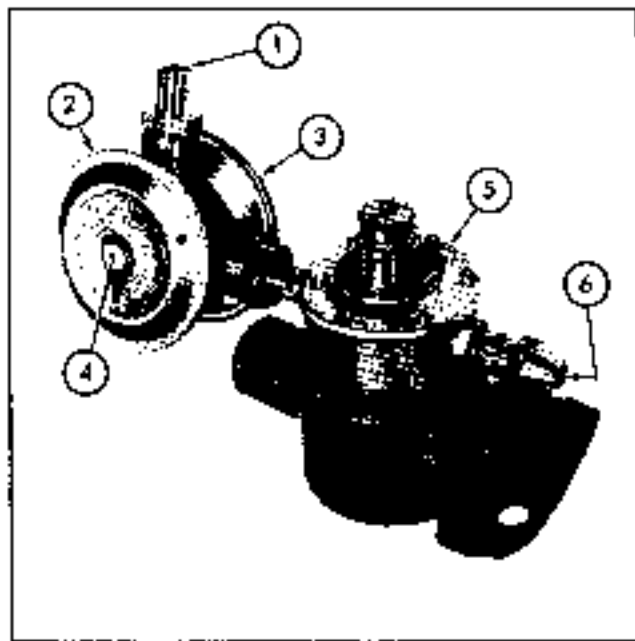

Fig. 147
- With vaporizer adjustments completed, and correct outlet pressure obtained, as described previously, connect INLET port of regulator to vaporizer OUTLET port, Fig. 147.
- Connect an air hose, capable of applying 80 - 75 psi, to vaporizer INLET port. Place a soap film over fuel OUTLET port in regulator as indicated in Fig. 147.